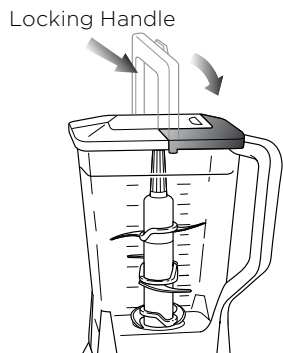

Fig. 5
- 7 Holding the lid by the handle in the upright position, place it on top of the pitcher aligning the arrow (▼) located on the lid with the arrow (▲) located on the pitcher's handle (**Fig. 5**).